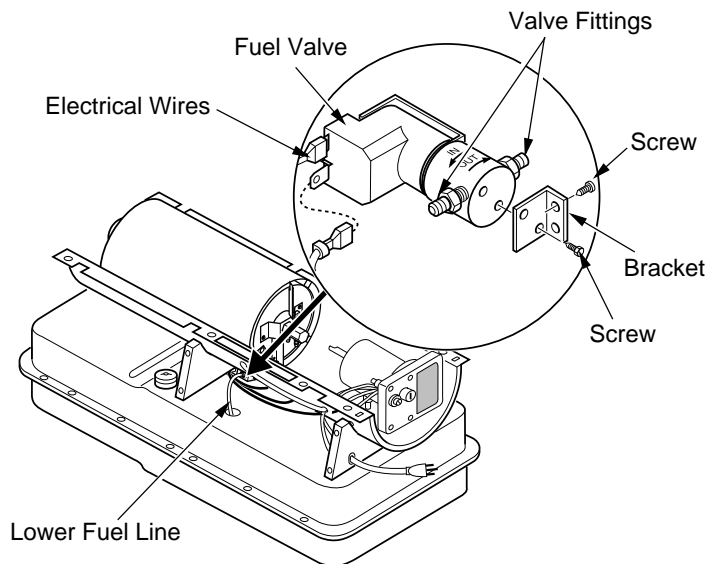

Figure 18 - Fuel Valve Replacement, 200 Model Only
3. Pull lower fuel line off the fuel valve fitting (see Figure 18).
4. Disconnect red and white wires from fuel valve (see Figure 18).
5. Using 1/4" nut driver remove 2 screws holding fuel valve and bracket to lower shell (see Figure 18). Save these screws.
9. Connect red and white wires (polarity not important). Connect upper and lower fuel lines to fuel valve (see Figure 18).